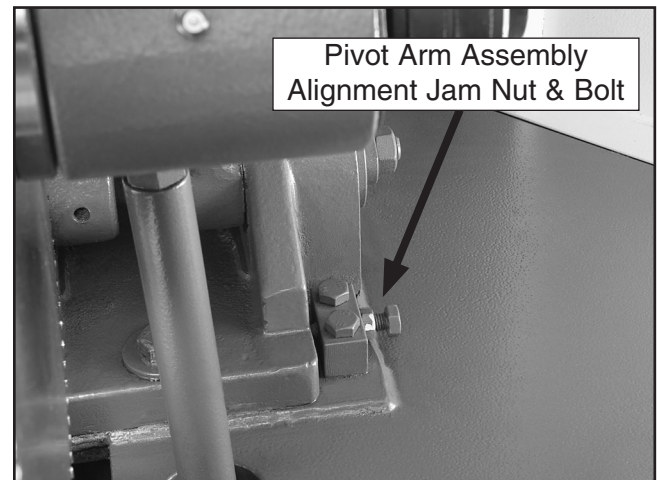

Figure 46. Pivot arm assembly alignment bolt.
4. Use a 13mm wrench to loosen the alignment jam nuts on either side of the motor base (see **Figure 46**).